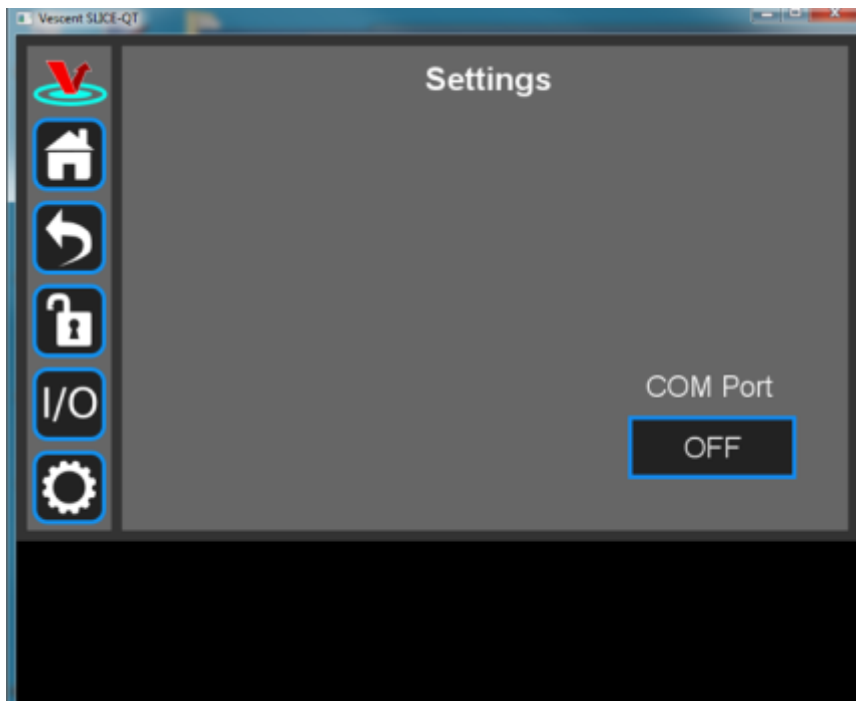

Fig. 38: Settings screen when viewed by GUI
6. On the SLICE-DCC GUI, click on the Settings icon to get to the window shown in figure 38.